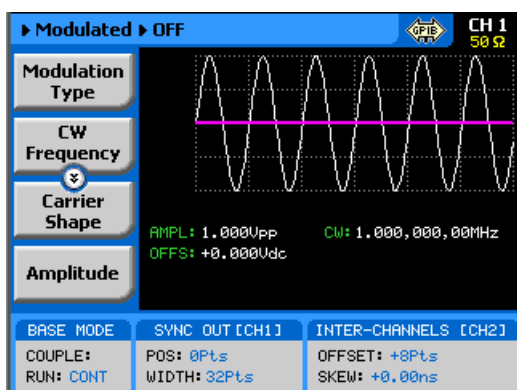

Figure 3-32, The Modulation Function Main Screen
The Modulation Off is a special instance of the modulation function, where the output is not modulated, but generates carrier waveform (CW) frequency only. CW can be sine, triangle, or square waveforms. When placed in Modulation Off, the CW is generated from the main outputs continuously. The CW parameter does not change when you switch from one modulation function to another. Figure 3-32 shows the Modulation Off menus.